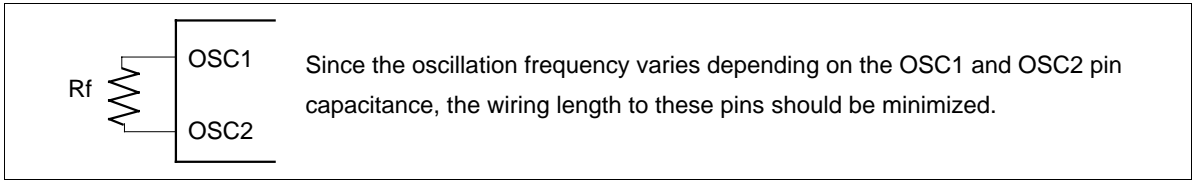

Figure 72 Internal Oscillation
11. Applies to the internal oscillator operations using external oscillation resistor Rf (figure 72 and table 42).